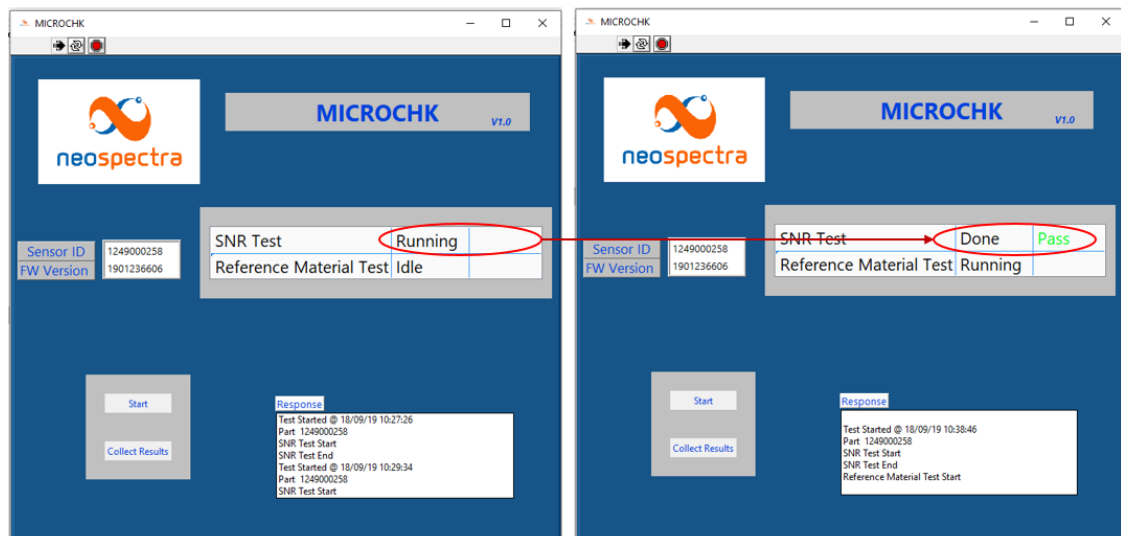

Figure 13: SNR Test
8. The 1st test (SNR test) will start running. You should notice DUT light source turning on and the test status will indicate if the test passed or failed as shown in Figure 13. If test failed, the software will stop and will not run the next test.